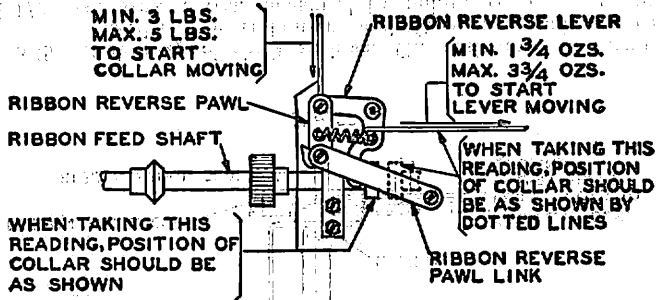

Fig. 24
3.49 Ribbon-feed-shaft safety-springs shall exert a pressure of Min. 3 lbs., Max. 5 lbs. measured on the ribbon-reverse pawls when the feed-shaft is held in engagement with the opposite spool-shaft gear and the main-bail is in its uppermost position. Fig. 24
3.55 Ribbon-reverse-pawl spring tension shall be Min. 1-3/4 ozs., Max. 3-3/4 ozs., with ribbon-feed-shaft-collar moved away from ribbon-reverse-lever as shown dotted. Fig. 24